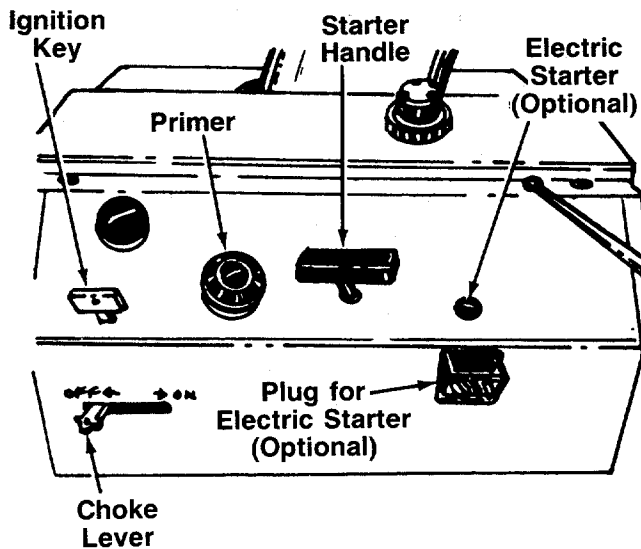

FIGURE 4.
The engine operating controls and their functions are as follows (see figure 4):
3. Insert ignition key into slot. See figure 4. Be certain it snaps into place. **Do not turn key.**
5. Push primer button **two** or **three** times. If unit is equipped with an **electric starter**, push primer button **one** time only. See figure 4. If engine is warm, **do not prime.**
1. Grasp starter handle (see figure 4) and pull rope out slowly, until it pulls slightly harder. Let rope rewind slowly.